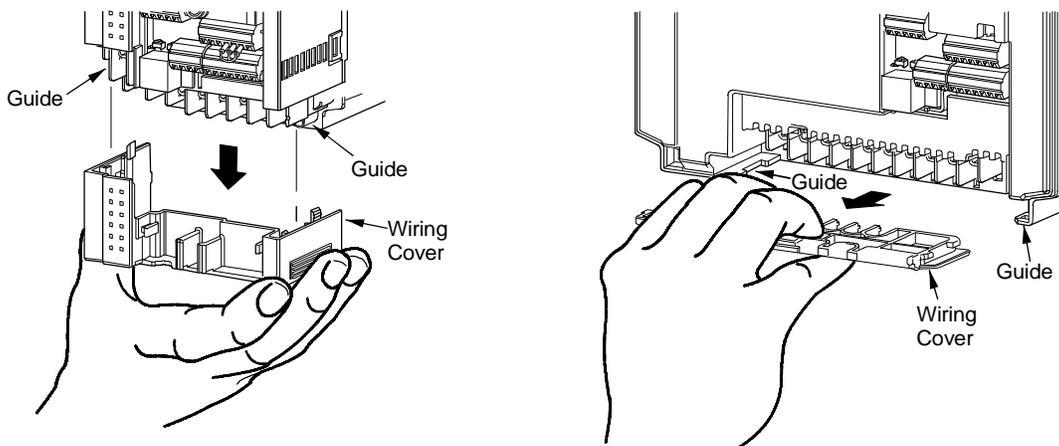

Figure 14: Remove the High-Voltage Wiring Cover
2. Remove the high-voltage wiring cover at the bottom of the VFD68 drive (Figure 14).
2. Remove the high-voltage wiring cover at the bottom of the VFD68 drive by pulling in the direction of Arrow A (Figure 14).